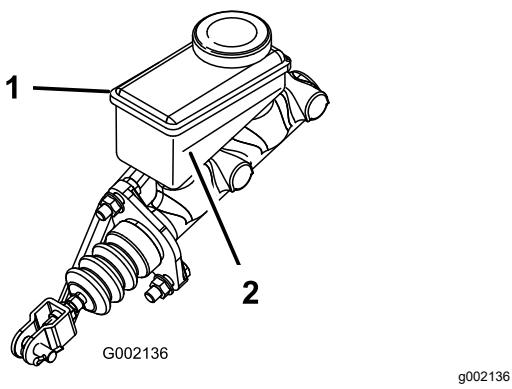

Figure 55
3. Look at the outline of the fluid level at the side of the reservoir (Figure 55).
- B. Add DOT 3 brake fluid to the reservoir until the fluid level is above the Minimum line (Figure 55).